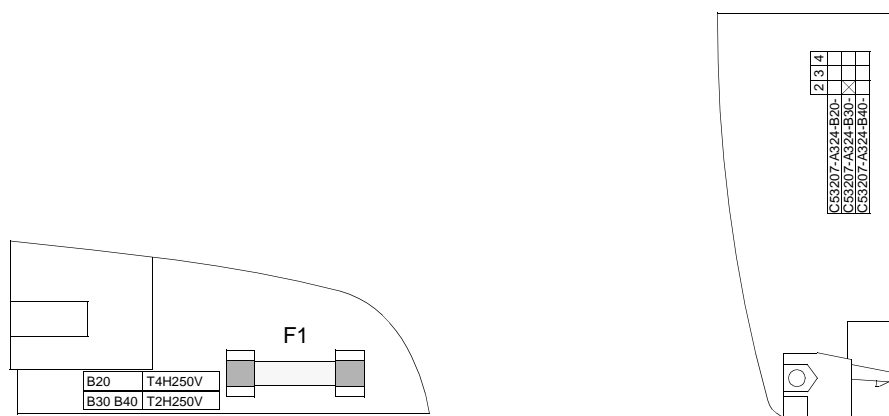

Figure 9-5 Power supply mini-fuse on the input/output printed circuit board I/O-1
- ☐ Has the fuse in the power supply not blown. The location of the fuse is shown in Figure 9-5. If the fuse needs to be replaced, see Sub-section 9.5.2.
This data is printed on the module next to the fuse (see Figure 9-5). The type of fuse depends on the auxiliary supply voltage, e.g. for 24 to 48 VDC the fuse type "T4H250V" according to IEC 60127-2 is required (refer to Table 9-1). To maintain the UL-approval, only UL approved fuses may be used (e.g. Messrs. Wickmann. type 181).
- ☐ Remove the defective fuse. Figure 9-5 illustrates the fuse.